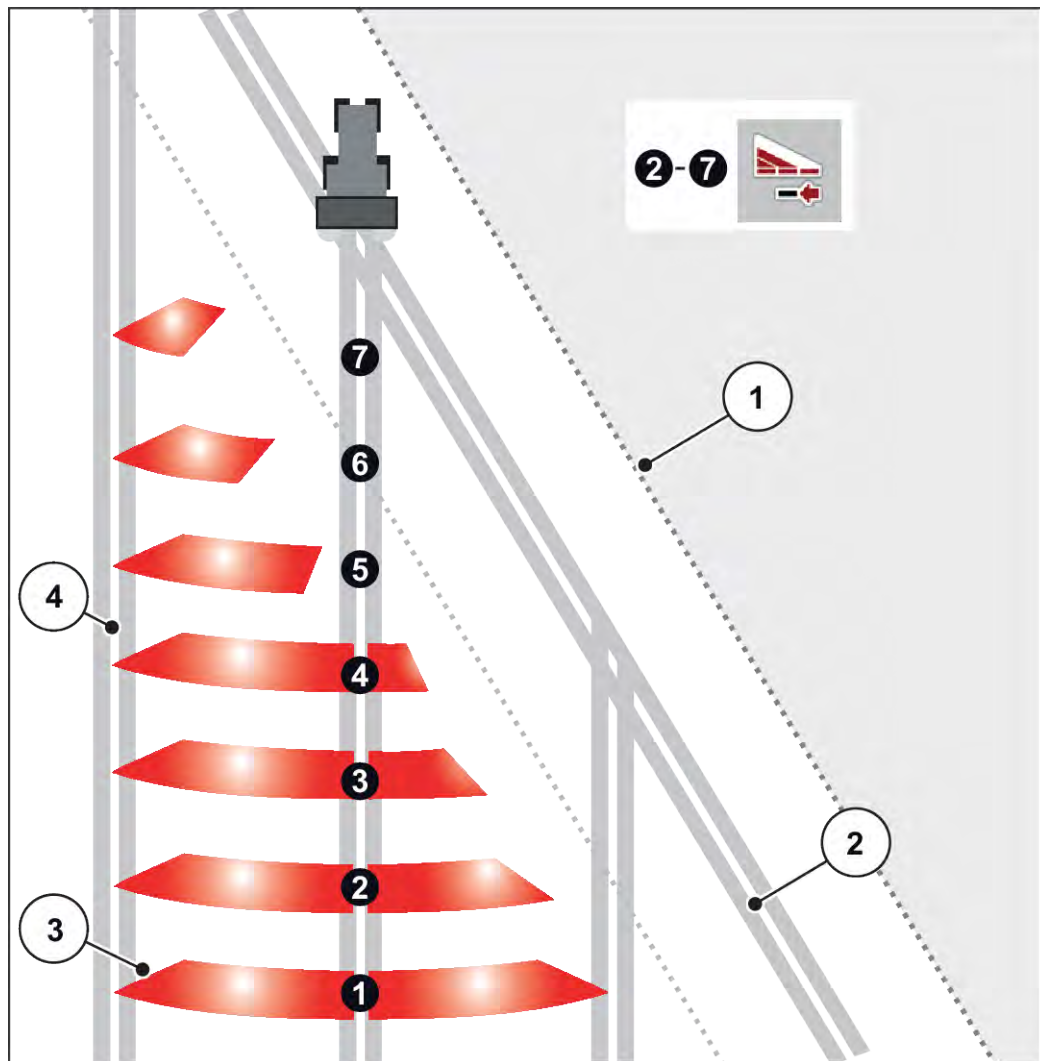

Fig. 44: Automatic section control
- Section control is possible from the outside to the inside or vice versa. See *Fig. 44 Automatic section control*